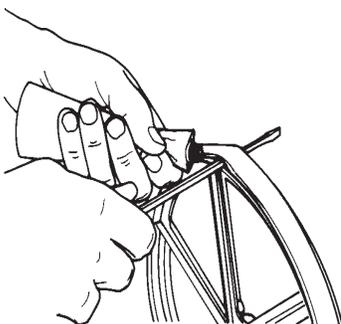

Fig. 15
11. While slightly lifting the tire from the wheel with the screwdriver, carefully inject adhesive on the wheel behind the screwdriver, as shown in Figures 15 and 16. Spread the adhesive evenly and take care to not use too much in one place.